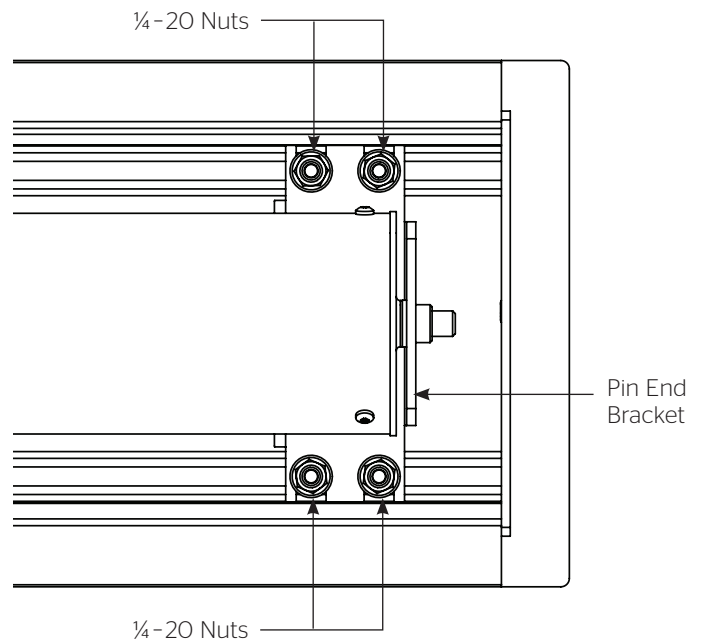

Figure 3
5. Loosen (but do not remove) four ¼ - 20 nuts securing pin end bracket (opposite end from the junction box) to the case housing. While supporting the screen and roller, slide the pin end bracket towards the end of the case and remove the existing screen and roller assembly (Figure 3).